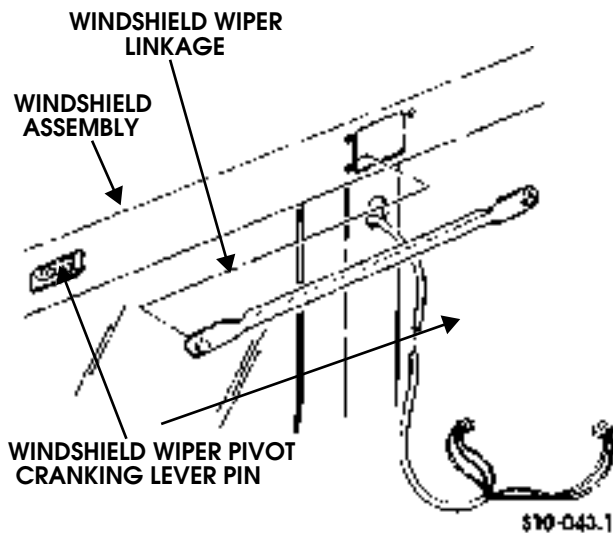

Figure 10-109: Windshield Wiper Linkage Replacement
3. Disconnect windshield wiper linkage from windshield wiper pivot cranking lever pin and remove windshield wiper linkage (Figure 10-109).
1. Secure windshield wiper linkage to windshield wiper pivot cranking lever pin (Figure 10-109).